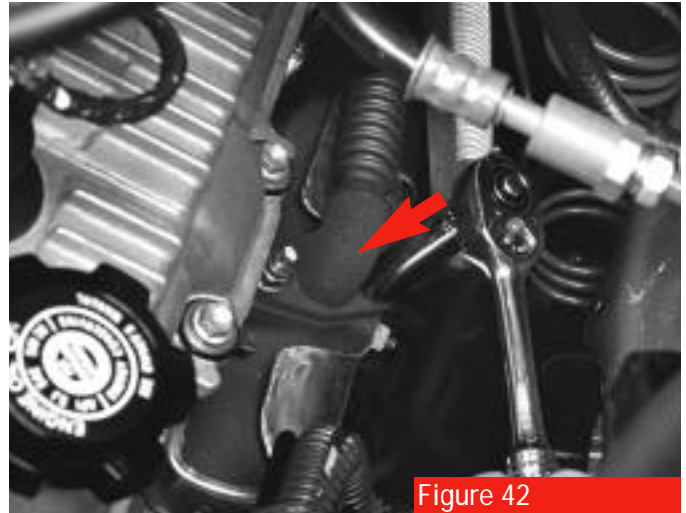

Figure 42
If your Tacoma or T-100 is equipped with an Exhaust Gas Recirculation (EGR) valve (see arrow, figure 42), you will need to remove the valve from the stock intake manifold and reattach it to the TRD supercharger manifold. Here's how:
1. Loosen the EGR pipe from the driver's side exhaust manifold. This will ease the removal and installation procedures (figure 42).
3. Tighten the nuts holding the EGR pipe to the exhaust manifold (figure 42) and torque them to the specs provided in the Toyota Repair Manual.